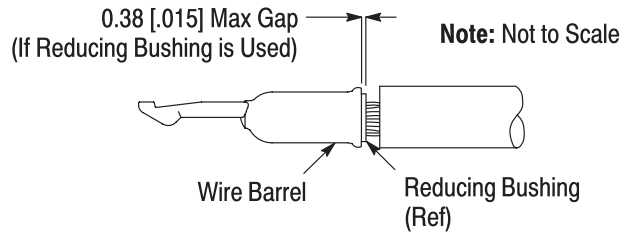

Figure 4
5. Insert the wire conductors into the contact wire barrel until it stops. DO NOT allow the insulation to enter the wire barrel. If used, the reducing bushing must be flush with the contact wire barrel or can protrude from the wire barrel no more than the dimension given in Figure 4.